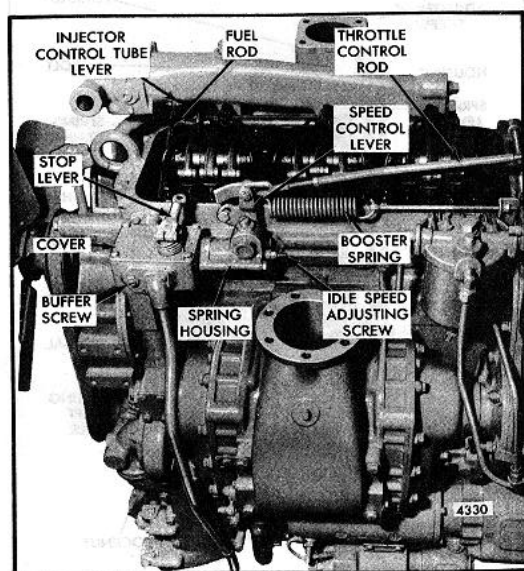

Fig. 3 - Buffer and Idle Speed Adjusting Screw
2. Loosen the lock nut (Fig. 3) and back out the buffer screw approximately 5/8".
1. Refer to Fig. 3 and disconnect the booster spring.
2. Refer to Fig. 3 and loosen the booster spring retaining nut on the speed control lever. Loosen the lock nuts on the eye bolt at the opposite end of the spring.